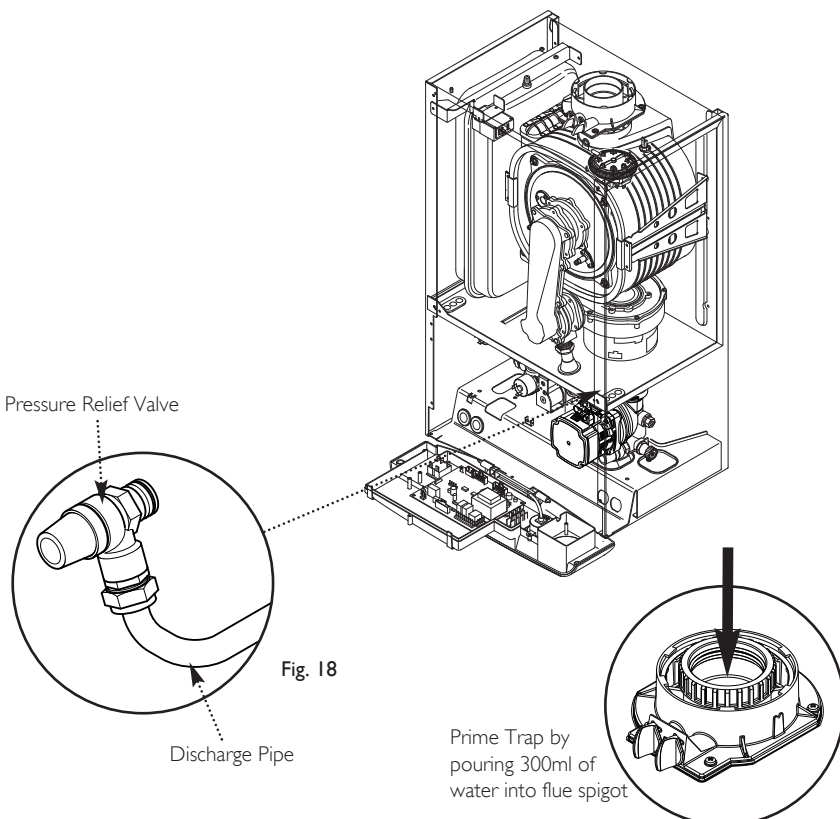

Fig. 18
9.5 Fitting the Safety Pressure Relief Discharge Pipe (Fig. 18)